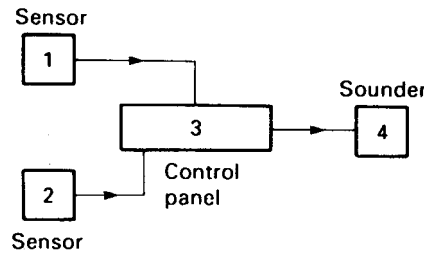

Fig. 20.19 Block diagram of an intruder alarm system
1. **Block diagrams** (Fig. 20.19) are used to give a general indication of a complete system.